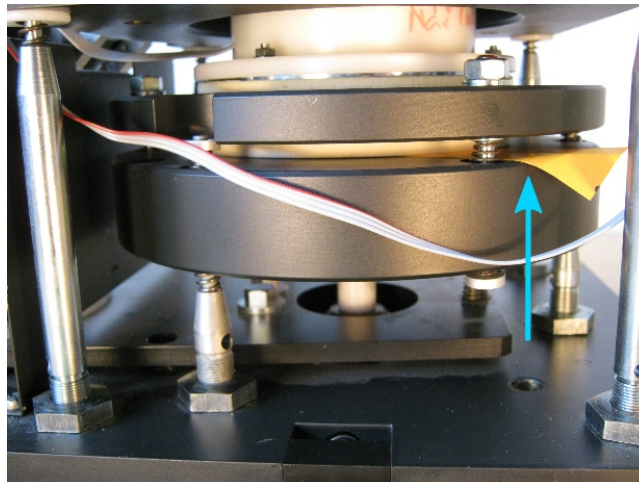

Figure 6: Correct distance between round plates
- The system is set properly when you can insert this paper between damping foam and bottom plate easily, but without any space left, as you can see in Fig 6.